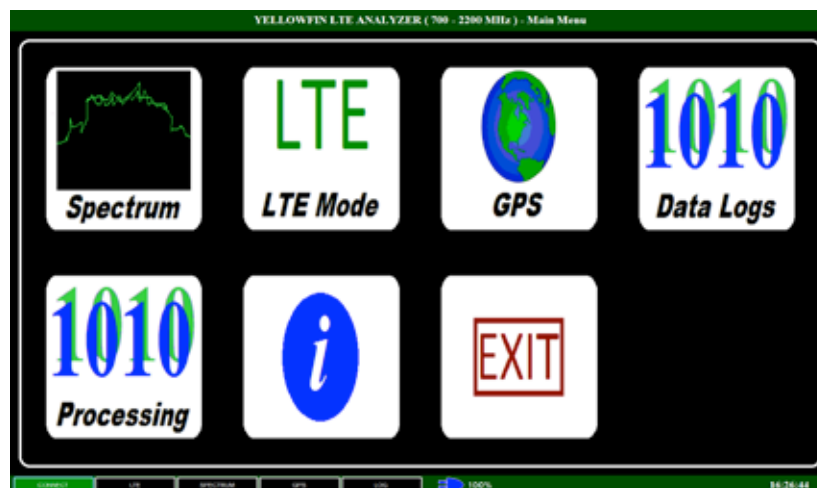

Figure 1. Main Screen (MS)
To start the LTE Analyzer double click on the “YellowFin LTE” icon from the Windows desktop touch screen to obtain the “Welcome to Yellowfin LTE” window, listing the 6 steps of “The BVS YellowFin LTE Receiver GETTING STARTED BASICS” . Click on “CONTINUE” to initiate the Main Screen (MS) seen in Figure 1: